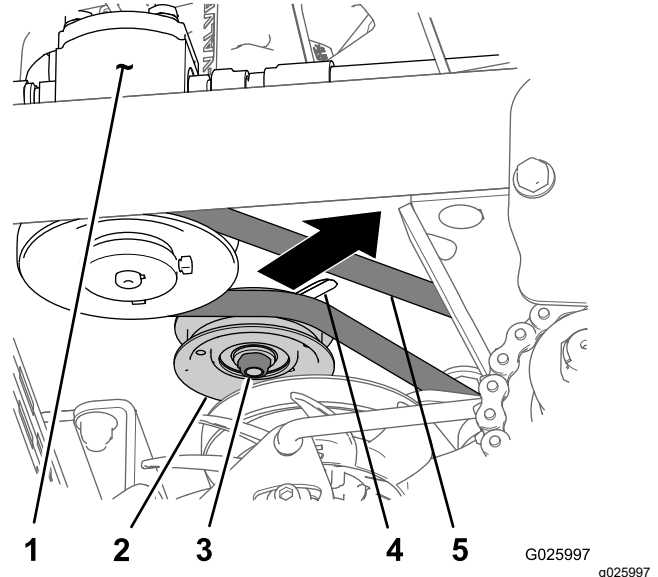

**Figure 59**
3. Check the auxiliary pump-drive belt condition and tension (Figure 59).
4. Check condition of the transmission-drive belt (Figure 59).